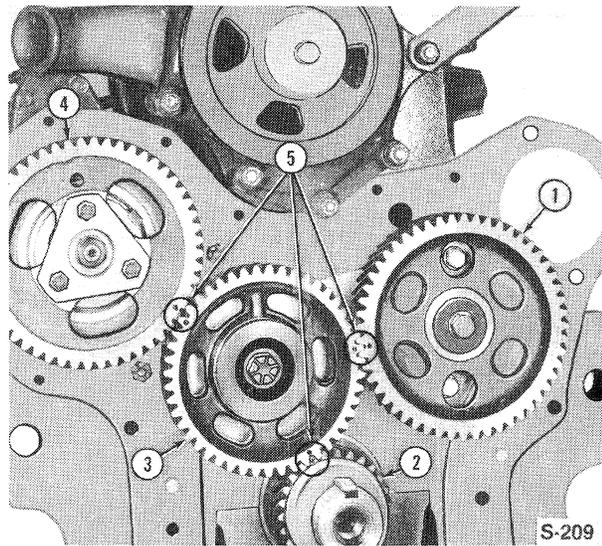

Figure 27
- Position No. 1 piston at top dead center and install the camshaft drive gear and adapter with the timing marks aligned with those of the other gears, as shown Figure 27.
NOTE: All Ford engines with the rotary type fuel injection pump have a common fuel injection pump drive gear. This gear features two timing marks identified by numerals '3' and '4' for 3 and 4-cylinder engines respectively, Figure 27. When installing the pump drive gear, be sure the 3 cylinder timing mark aligns with the camshaft drive gear timing mark.